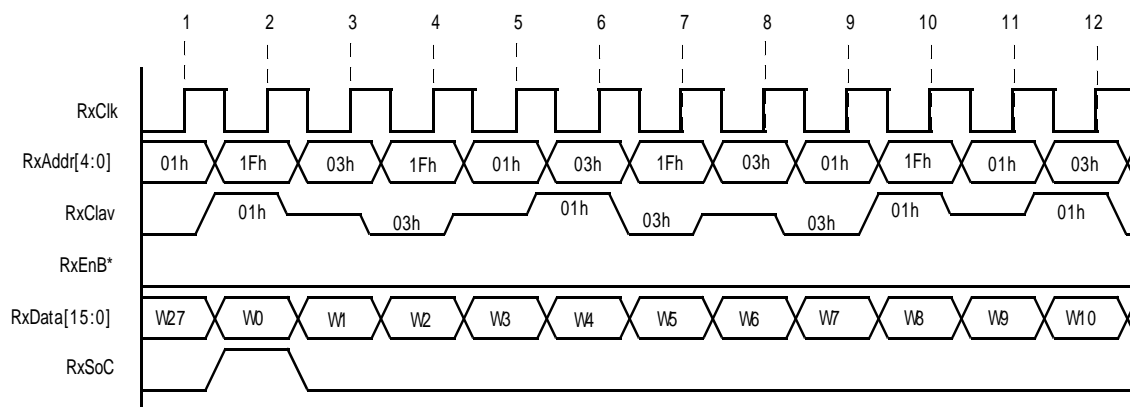

Figure 88. Timing Diagram illustrating the Behavior of various signals from the ATM Layer processor and the UNI, during Polling.
Figure 88 presents a timing diagram, that depicts the behavior of the ATM Layer processor’s and the UNI’s signals during polling.
Notes regarding Figure 88:
2. The Receive Utopia Interface block is configured to handle 54 bytes/ cell. Hence, Figure 88 illustrates the ATM Layer processor reading 27 words (V0 through V26) for each ATM cell.